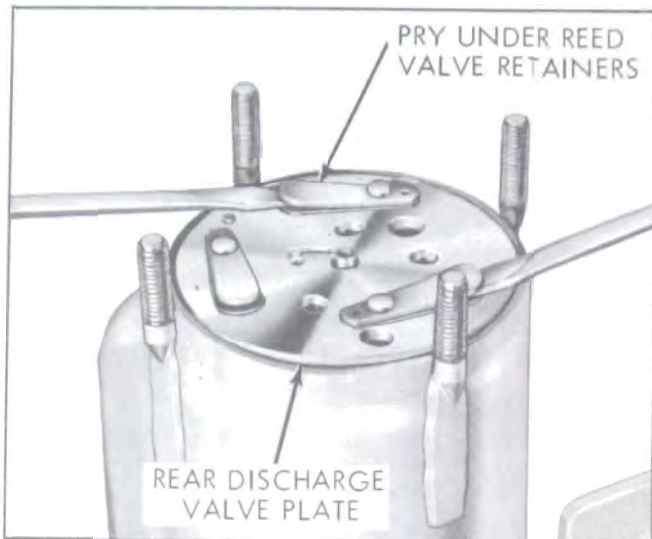

Figure 11-56—Removing Rear Discharge Valve Plate
16. Carefully remove rear discharge valve plate assembly by prying up on assembly as shown with screwdrivers and examine discharge valve reeds and seats. See Figure 11-56. Replace entire assembly if excessively scored or if any one of the three reeds is broken or seats are damaged.